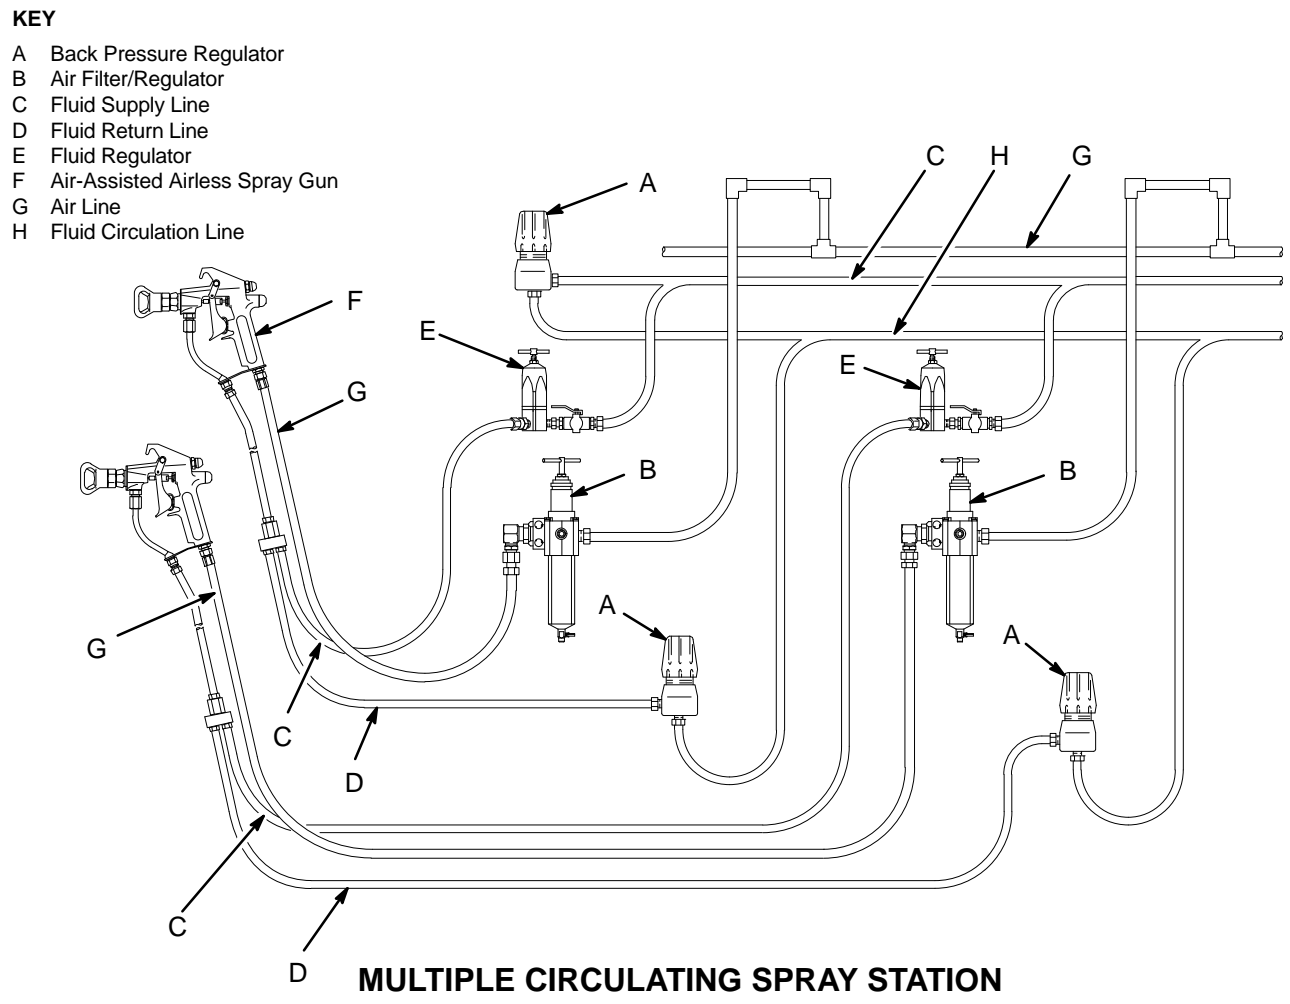

Fig. 2
4. If more than one spray station is used, install a back pressure regulator (A) in the circulating line (H) after the last spray station to maintain proper system pressures. Refer to Fig. 2, for multiple circulating spray stations.